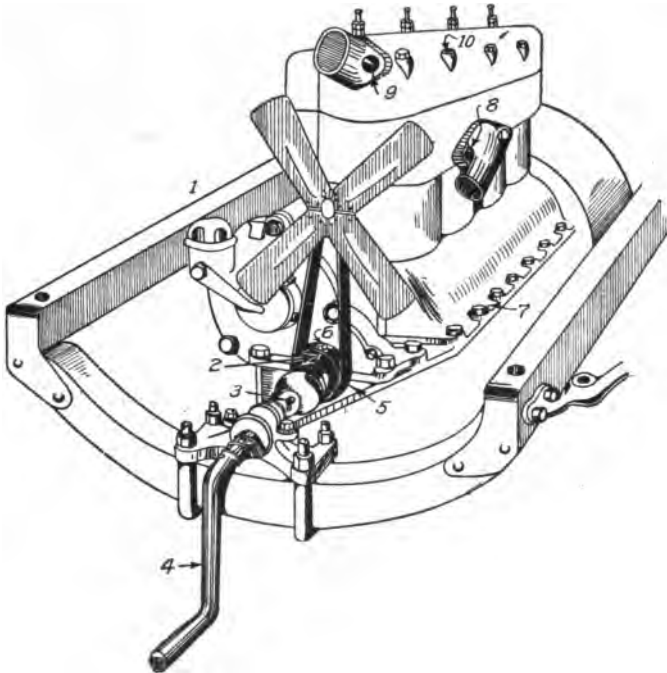

Fig. 370. Preparing Engine for Mounting Starting Unit
**Installation. Preparing Engine.** Remove the radiator, disconnecting the ground wire from it; disconnect the wires from the head lamps and remove the head lamps and supports. Take off the bracket and fan, Fig. 370, and turn the engine by hand until the pin 2 in the fan pulley is straight up and down; remove the pin from the jaw clutch and remove the starting-crank 4, belt 5, and the cotter pin, 3; take the pin from the fan pulley and remove the pulley 6. Remove